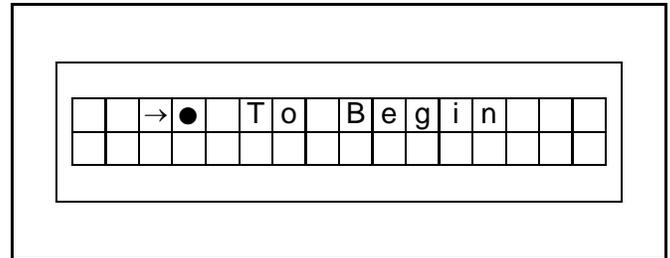

Figure 82
Then the message Push ● [press enter (●) key] will appear on the display. (See Figure 82.)
3. After the enter (●) key has been pressed one time (Figure 82), verify the motor rotation by briefly pushing the up (▲) and down (▼) keys on the control panel.